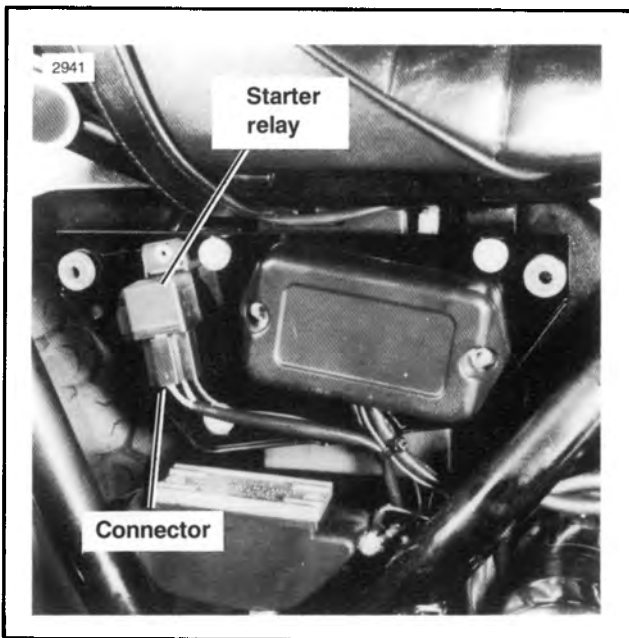

Figure 5-21. (Right Side Cover Removed). Starter Relay Location FXR — Models
2. See Figure 5-21, 5-22 or 5-23. Before removing the starter relay, unplug the connector and substitute a new relay or perform the following test.